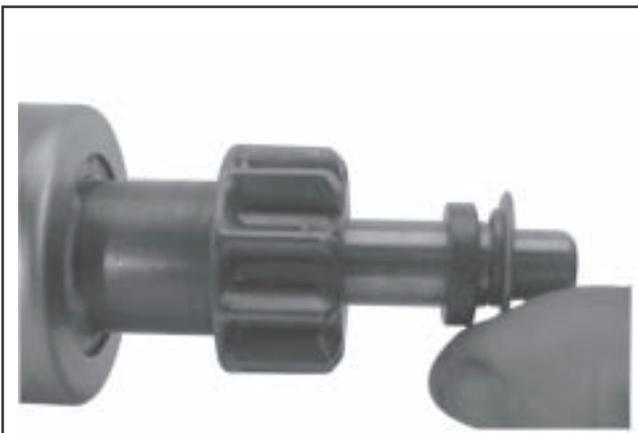

Figure 8-46. Thrust Washer Installation.
3. Install the offset thrust (stop) washer so the smaller **offset** of washer faces the retainer/collar. See Figure 8-46.